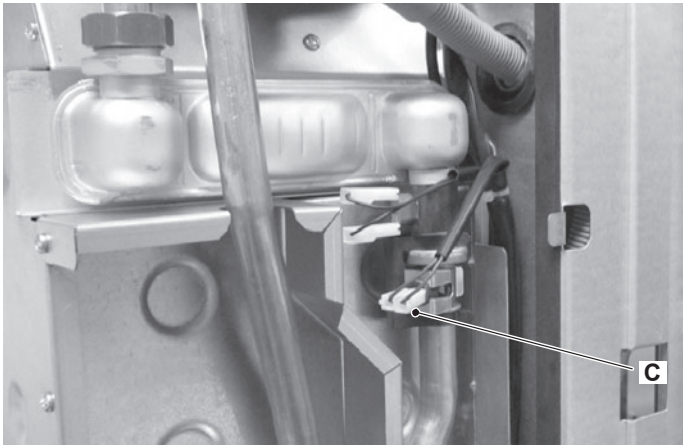

Figure 10.7
- 5 Disconnect the electrical connectors C of the c.h. temperature probe NTC in Figure 10.7.
- 7 Connect the electrical connectors C of the c.h. temperature probe NTC in Figure 10.7.